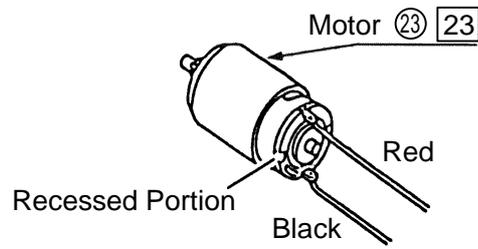
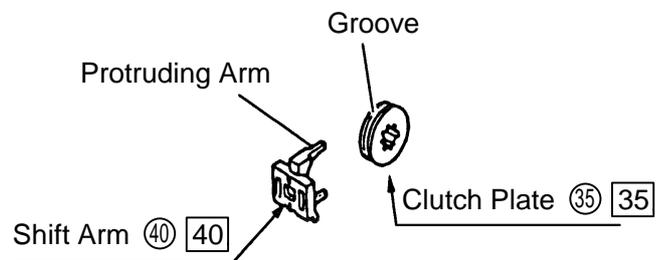

Fig. 7
Fig. 8
(9) Liberally coat grease (Hitachi Motor Grease, Code No. 930035, is recommended) on all sliding and rotating portions, and on the gear teeth. Particularly when the Second Pinion ③④ [34], High Speed Gear ③⑥ [36], and/or Low Speed Gear ③③ [33] are replaced, apply a generous amount of grease (Molub-Alloy Grease, Code No. 971042) on the circumference of the Second Pinion and on the inner surfaces of the High Speed Gear and/or Low Speed Gear.
(10) Ensure that the Motor ②③ [23] is installed so that its recessed portion is properly aligned and engaged with the matching chock in the Housing (A) (B) Set ②⑥ [26]. (See Fig. 7)
(11) Ensure that the convex portion of the Ring Gear ②① [21] is properly engaged into the matching concave portion of the Damper ②① [20].
(12) Ensure that the protruding arms of the Shift Arm ④① [40] are properly engaged with the groove on the Clutch Plate ③⑤ [35]. (See Fig. 8)
(13) On completion of assembly, confirm that the Spindle ⑤ [5] rotates easily and smoothly when the Drill Chuck ② [2] is rotated by hand. Before turning on the switch, carefully confirm that the white line on the Cap ⑧ [8] can be properly aligned with each of the clutch position numbers marked on the housing.
(14) Confirm without fail that the rotation direction of the Spindle ⑤ [5] conforms to the (R) and (L) settings of the rotation direction changeover lever on the Switch ④② [43]. When the lever is set to the (R) position, the Drill Chuck ② [2] must rotate clockwise when viewed from the tail end of the tool (the end opposite from the Drill Chuck).
(15) Tighten each fastening screw with the appropriate tightening torque indicated below.
- M4 x 8 Flat Hd. Screw ④① [41]0.25 - 0.34 N·m (2.5 - 3.5 kgf-cm, 0.18 - 0.25 ft-lb)
- D3 x 8 Tapping Screws ③ [3]0.79 - 1.18 N·m (8 - 12 kgf-cm, 0.58 - 0.87 ft-lb)
- D3 x 16 Tapping Screws ②⑧ [28]0.79 - 1.18 N·m (8 - 12 kgf-cm, 0.58 - 0.87 ft-lb)
- M5 x 17 Flat Hd. Screw ① [1]2.94 - 3.63 N·m (30 - 37 kgf-cm, 2.2 - 2.7 ft-lb)
- Drill Chuck ② [2].....12.8 - 16.7 N·m (130 - 170 kgf-cm, 9.4 - 12.3 ft-lb)